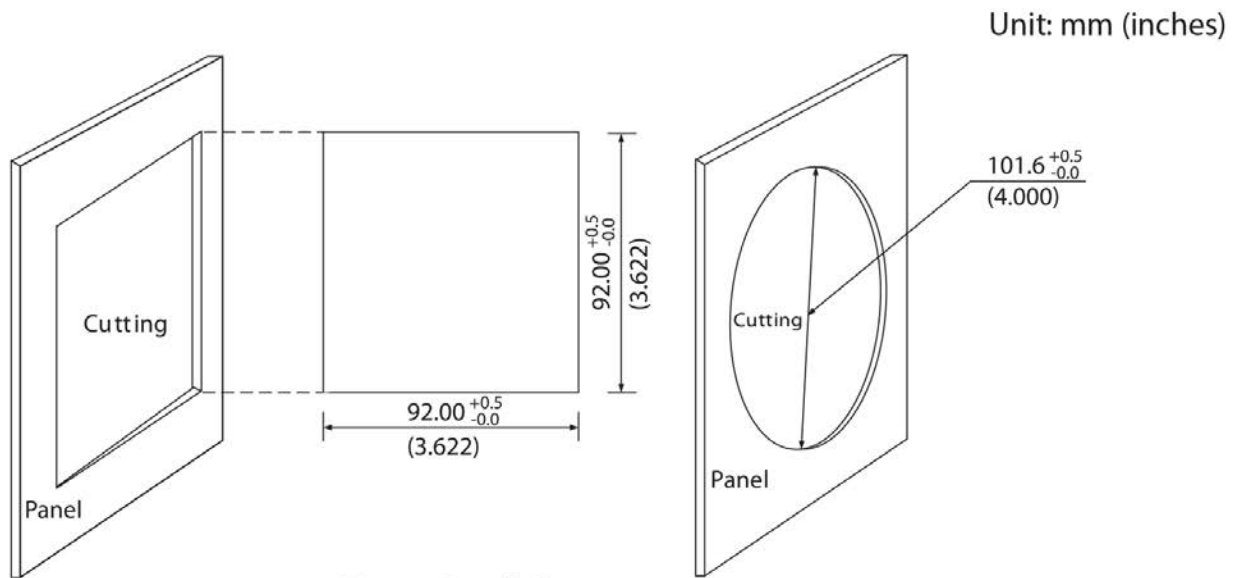

Fig 2-2 Panel Cutout
1. Cut a square hole or round hole on the panel of the switch gear. The cutting size is shown in fig 2-2.